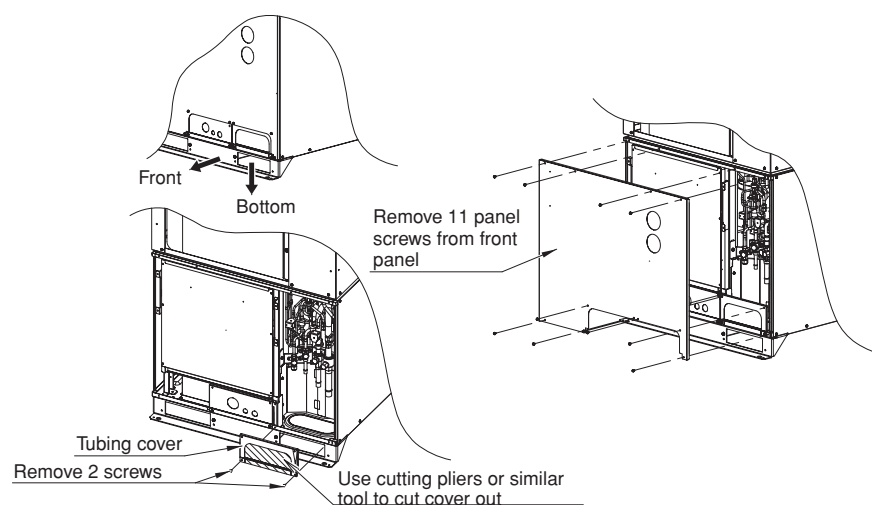

Fig. 4-5
- (1) If the tubing is routed out from the front, use cutting pliers or a similar tool to cut out the tubing outlet slit (part indicated by ) from the tubing cover. (Figs. 4-5 and 4-6)